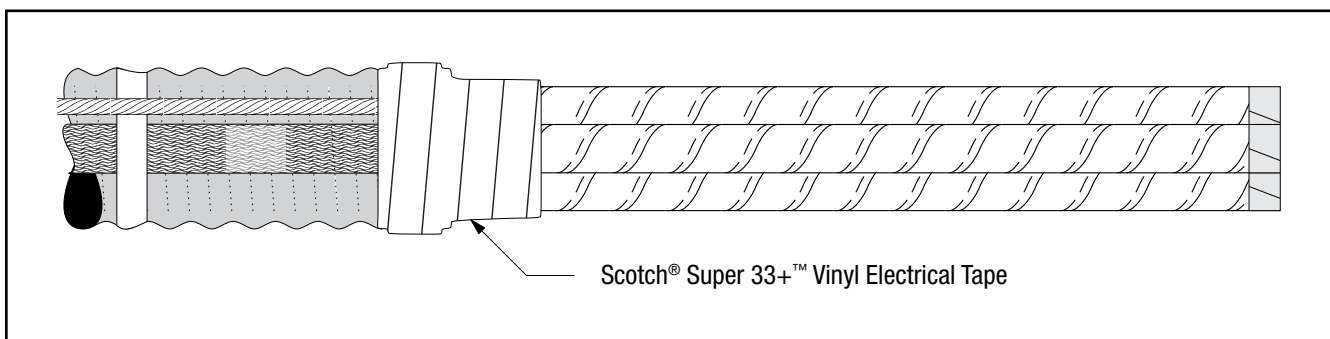

Figure 6
- 3.5 Apply two half-lapped layers of Scotch® Super 33+™ Vinyl Electrical Tape over looped ground wire area (*Figure 6*).